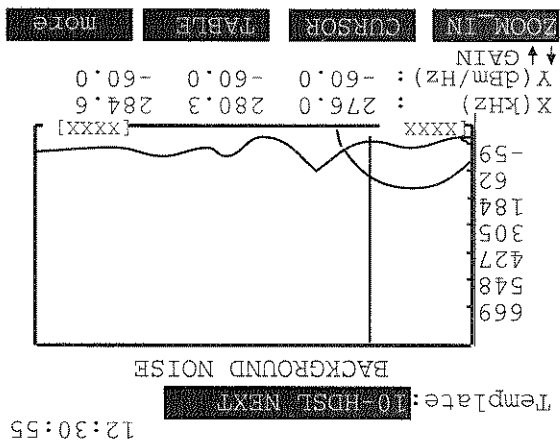

Figure 6-6 Background Noise-TERM Mode
- 6) After connecting to the circuit, press START (F3). A sample screen appears in Figure 6-6.